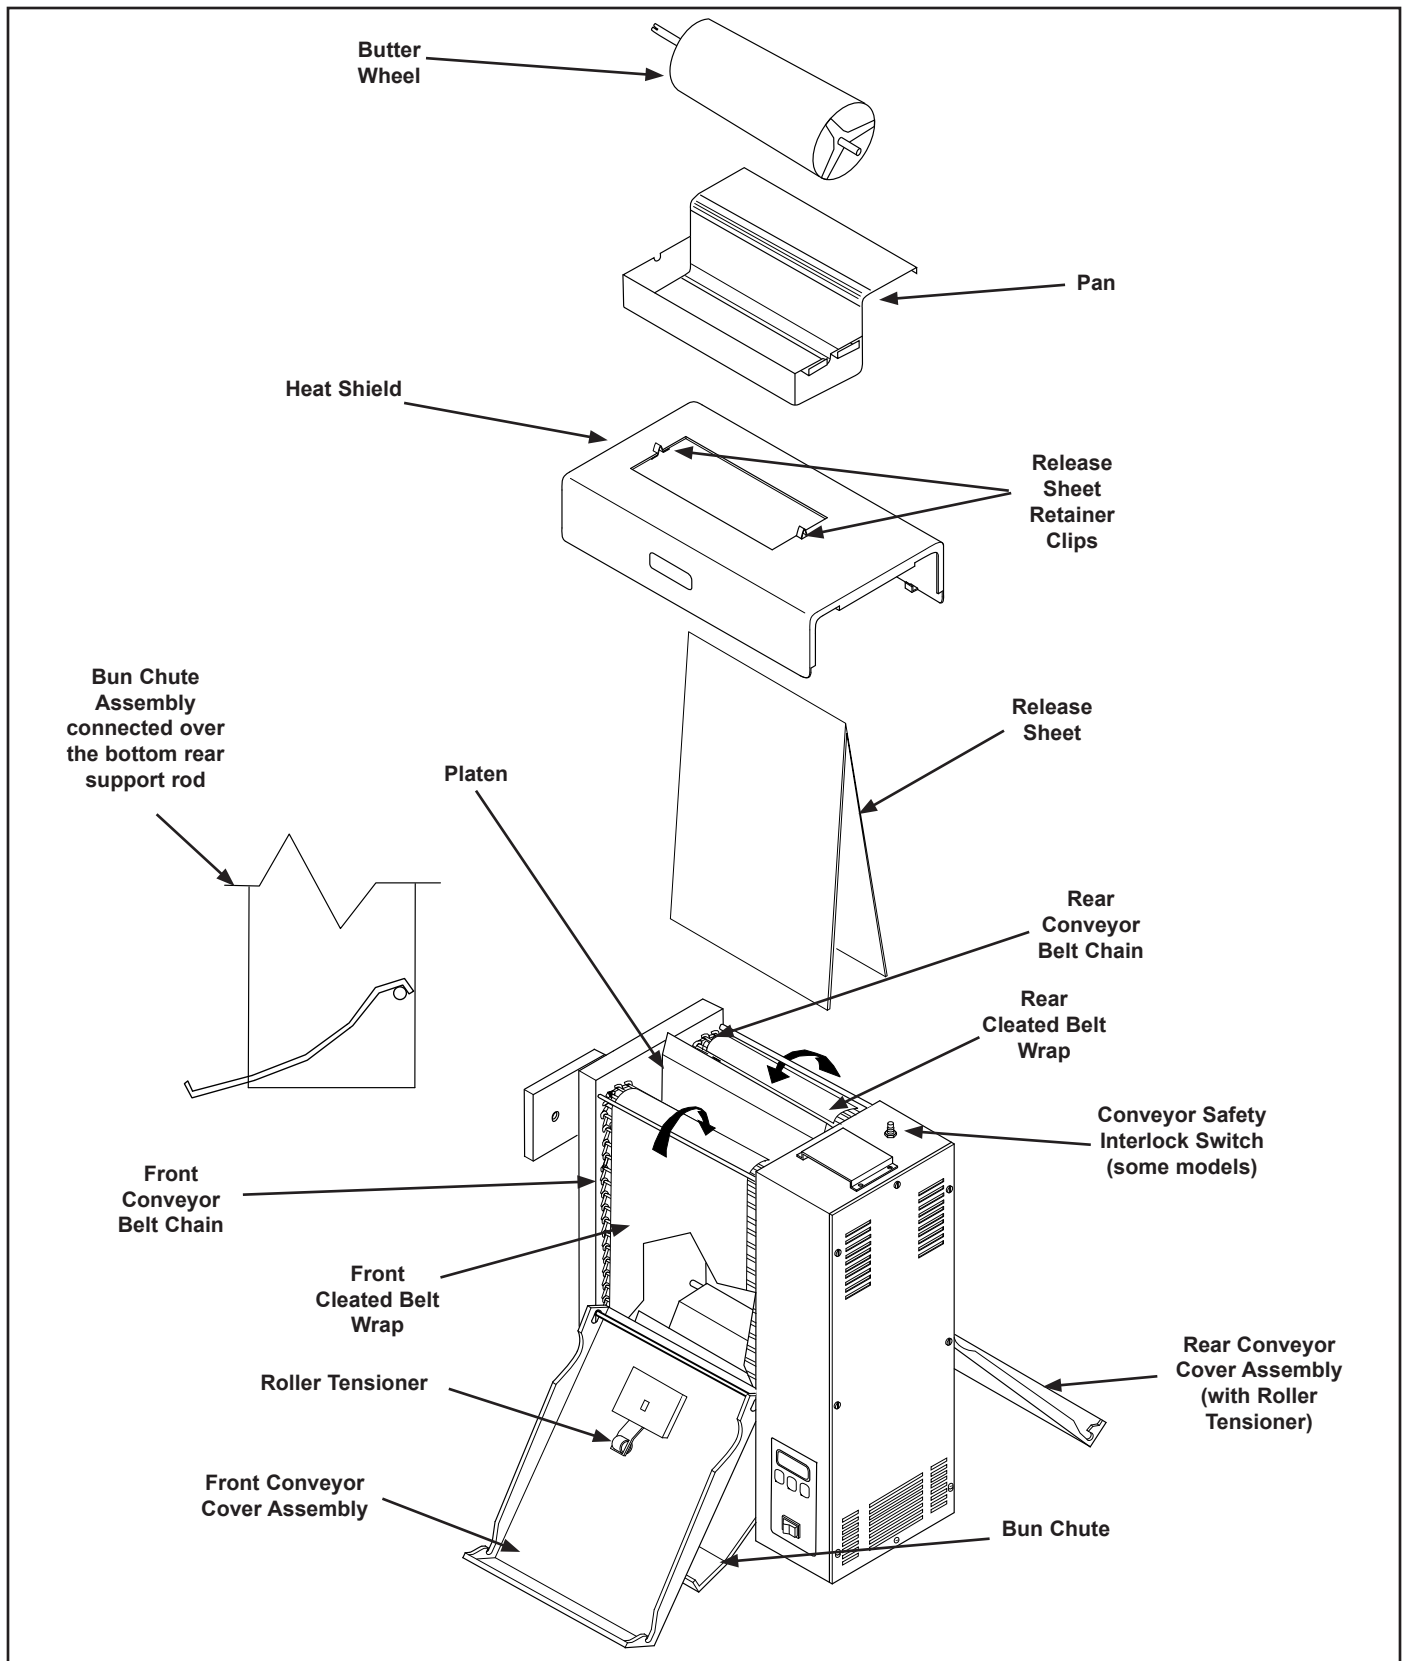

Figure 1. VCT-2000 Toaster
- Bun Chute (Figure 1)
- Butter Wheel and Pan (Figure 1)
- Two Release Sheets (Figure 1)
NOTE: The factory has pre-installed a Release Sheet over the Platen (Figure 1). Verify that it is properly in place before proceeding.
1. Remove Bun Chute from the box and install (Figure 1).
2. Remove Butter Wheel and Pan from box. Install the Pan over the front edge of the Heat Shield and place the Butter Roller in Pan and engage in to gear case (Figure 1).
2. Put on heat-resistant gloves and remove the Butter Wheel, Pan, and Heat Shield (Figure 1).